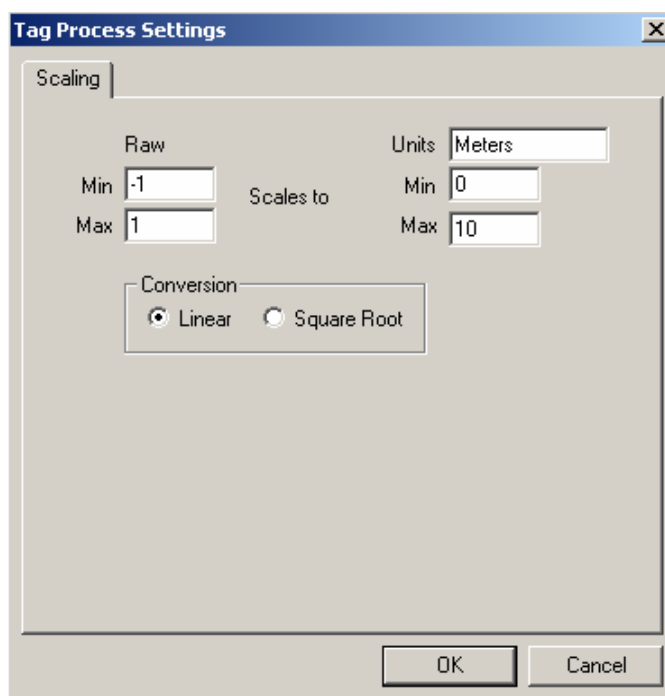

Figure 4.9. OPC Tag Scaling
4. The **Tag Process Settings** dialog box appears, as shown in **Figure 4.9**. The sine wave signal you have configured will go from -1 to 1. Fill in the fields as shown in Figure 4.9, so this scales to 0 to 100 meters. Click **OK**.